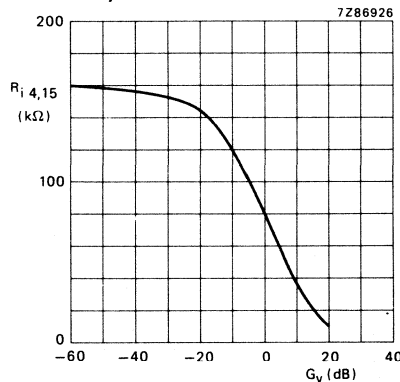

Fig. 4 Input resistance (Ri) as a function of gain of volume control (GV). Measured in Fig. 1.
- Equation for input resistance (see also Fig. 4)